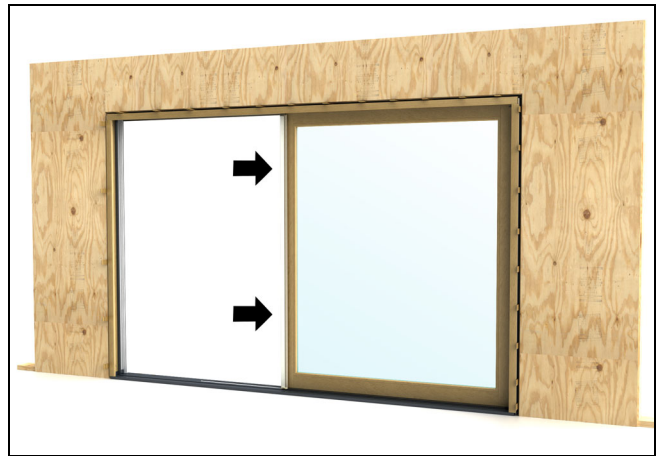

Figure 146
6. Slide panel to opposite jamb and repeat step 5. See figure 146.